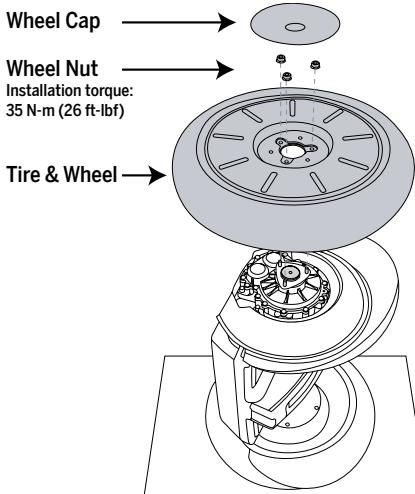
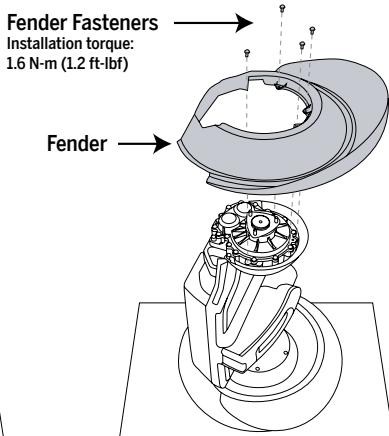

Figure 1. Removing or Installing the Tire & Wheel Assembly
Figure 2. Removing or Installing the Fender
See Figure 1.
4. Hold the Wheel to keep it from rotating and remove the (3) Wheel Nuts with a 13mm socket wrench. You will need the (3) Wheel Nuts to re-install the Wheel.
6. To remove the Fender, use a T20 six-lobe wrench and remove the (4) fasteners which attach the Fender to the Gearbox. Lift off the Fender. See **Figure 2**.
7. To install the new Fender, position the new Fender so that it aligns with the holes in the Gearbox. **See Figure 2**.
8. Thread the (4) 11mm long fasteners (included with this kit) through the Fender to the Gearbox. Using a T20 six-lobe wrench, torque to 1.6 N-m (1.2 ft-lbf).
9. To replace Wheel, place the Tire & Wheel assembly over the 3 threaded posts. **See Figure 1**.
10. Hold the Wheel to prevent it from rotating and thread on the (3) Wheel Nuts. Using a 13mm socket wrench torque to 35 N-m (26 ft-lbf).